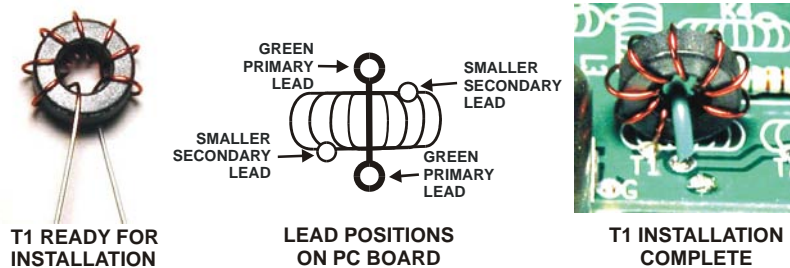

Figure 8. Transformer T1.
___ “Sew” the long end of the wire through the hole in the core for a total of 8 turns. Count one turn each time the wire passes through the center of the core. There are no half or quarter turns when winding a toroid. **Match the winding direction shown in Figure 8 so the leads will line up with the solder pads on the circuit board.**
- The lead should be tinned all the way up to the core as shown in Figure 8.
Locate the outline for T1 between BNC connectors J1 and J2 on the PC board. Thread the tinned leads of T1 through the *smaller* pads (See Figure 8). Position the toroid over the outline as shown and bend the leads on the bottom of the circuit board to hold the toroid against the PC board in place. Inspect the lead on the top side of the board to be sure tinned lead is visible above the solder pad. If not, remove the toroid, clean and tin the lead closer to the core and replace it on the PC board.